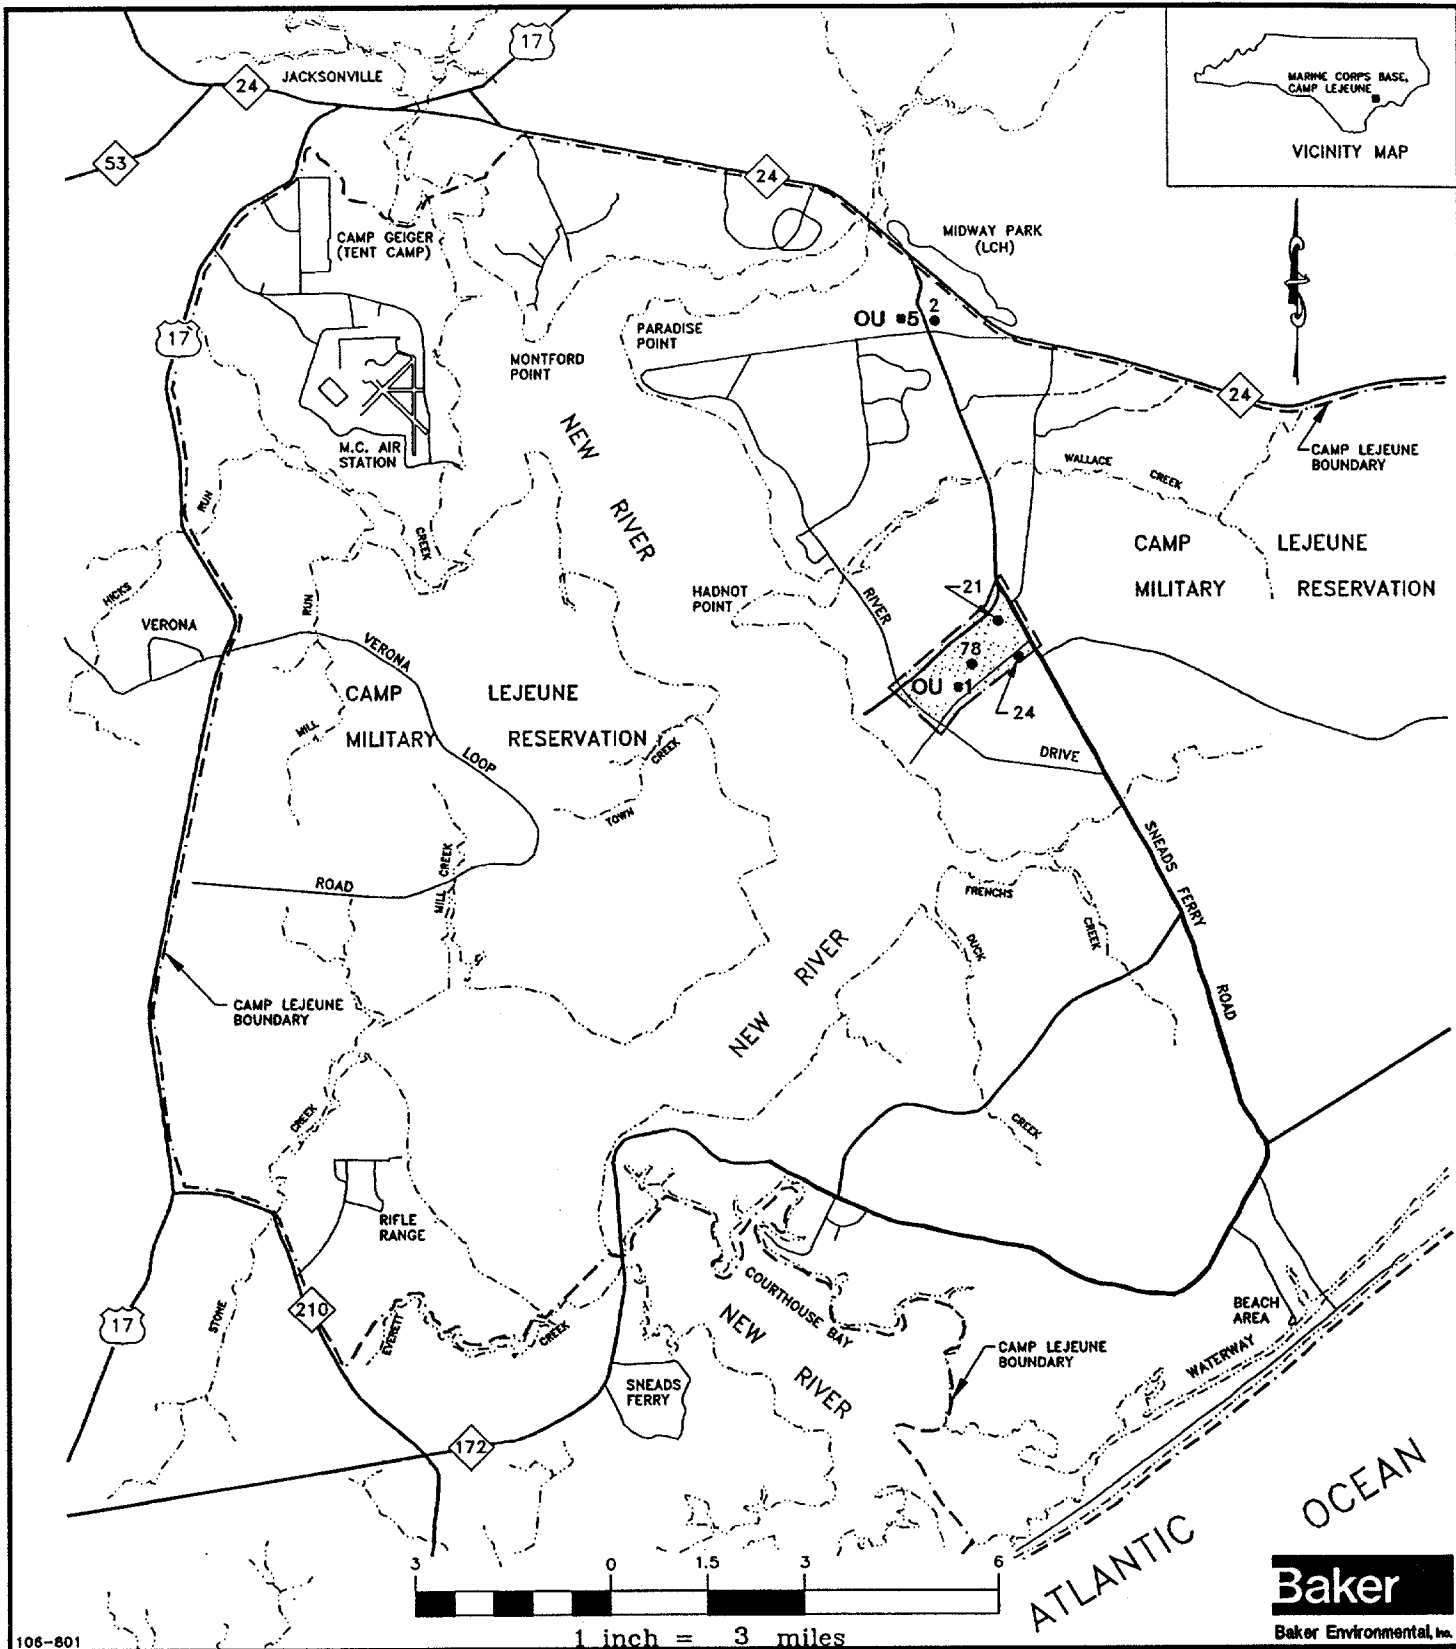

FIGURE 1
- Figure 1 identifies the location of the site under investigation.